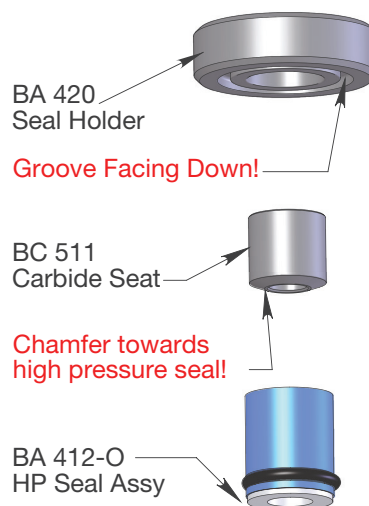

Figure 12: Seat and Seal Detail
6. Install the high pressure seal stack into the shaft. Start with the Spring (BA 424), followed by the HP Seal Assy (BA 412-O), then the Seal Holder (BA 420). **See Figure 12 for orientation of groove in Seal Holder and direction of HP Seal Assy.** Apply grease to each component when installing to hold them in the shaft.
7. Install Carbide Seat (BC 511) into Seal Holder. **Note orientation of chamfer in Figure 12.** Use grease to hold the Carbide Seat in place.